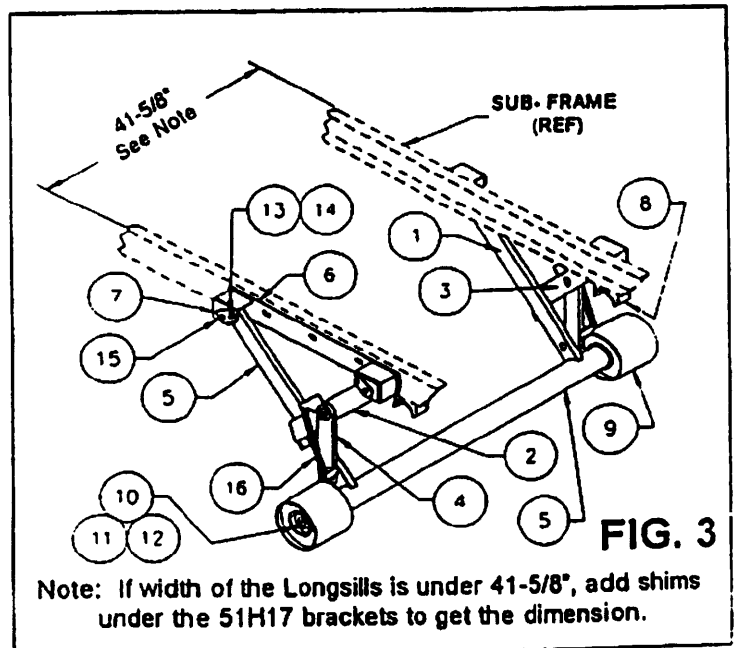

FIG. 3
Fabricate four support bars out of 4" x 1" bar cut to the length needed to fit between the cross members (See Fig. 3). Figure 3 shows a width dimension of 56-1/2". This width can be adjusted if interference occurs with other items on the container, but cannot exceed the width of the bumper tube. Weld the four bars between the cross members.
5. Assemble the Bumper Assembly to the Front and Rear Brackets (See Fig. 3). Refer to the Typical Bolted Connection (See Fig. 4) for all connections.